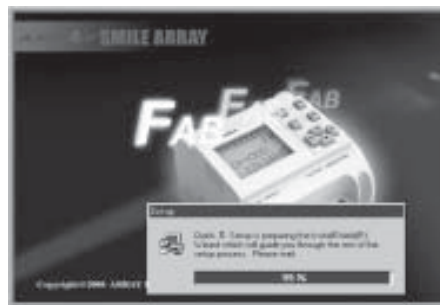

Fig 2.1 Installation-Guidance window
1. Insert the CD-ROM with Quick II into the CD Drive and Installation Guidance will appear automatically. Select **Install>Quick II**. The dialogue box, as shown in figure 2.1, will appear. Then wait for installation instructions.